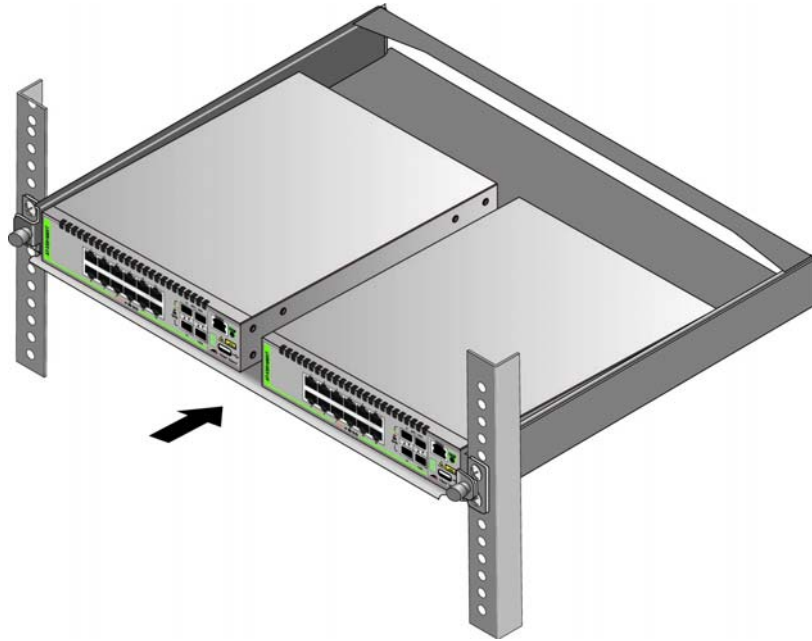

Figure 37. Sliding in the Bracket Tray
10. Slide in the bracket tray. Refer to Figure 37.